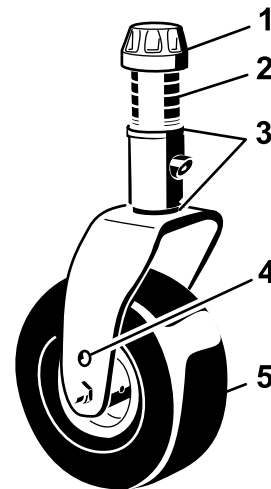

Figure 29
3. Adjust the shims (3 mm or 1/8 inch) on the front caster fork(s) to match the height-of-cut decal (Figure 29); refer to Adjusting the Height of Cut \(page 26\).